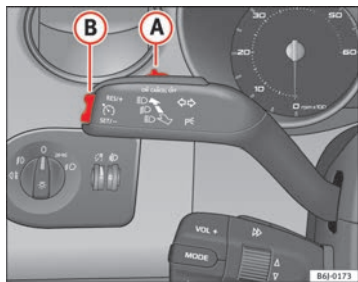

Fig. 117 Turn signal and main beam headlight lever: switch and rocker switch for the cruise control
- Press the lower part **SET** of the rocker switch ⇒ fig. 117 **B** once briefly when you have reached the speed you wish to set.